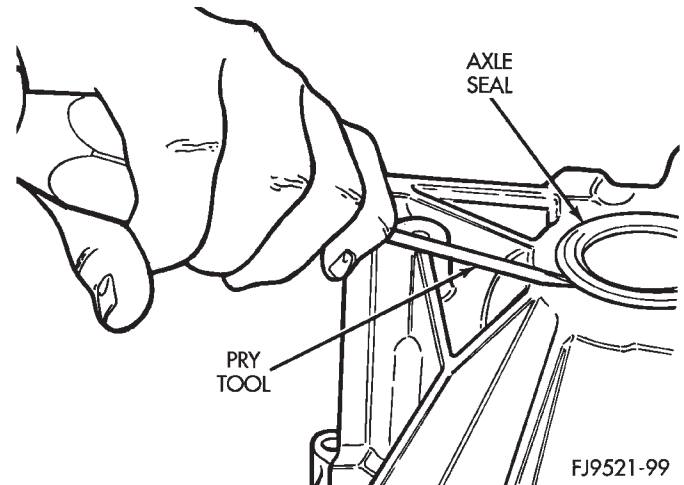

Fig. 130 Axle Shaft Seal Removal
- (1) Insert a flat-blade pry tool at outer edge of axle shaft seal (Fig. 130).
- (2) Tap on the pry tool with a small hammer and remove axle shaft seal.